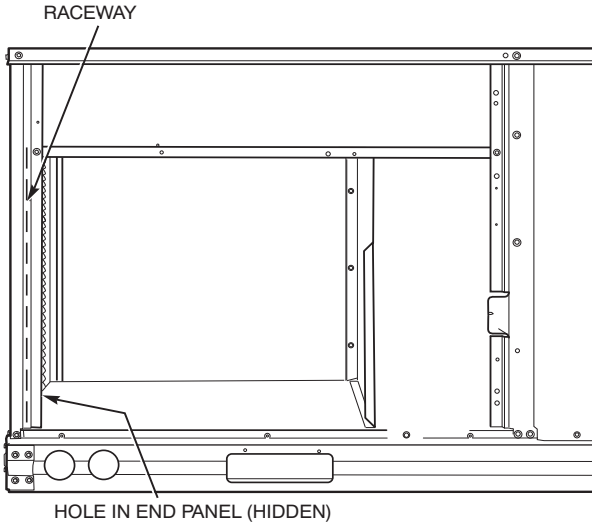

Fig. 42 - Field Control Wiring Raceway
Pass the thermostat control wires through the hole provided in the corner post; then feed the wires through the raceway built into the corner post (see Fig. 42) to the control box. Pull the wires over to the terminal strip on the upper-left corner of the Controls Connection Board.
2. Feed wires through the raceway built into the corner post (see Fig. 42) to the 24-v barrier located on the left side of the control box. The raceway provides the UL-required clearance between high-voltage and low-voltage wiring.